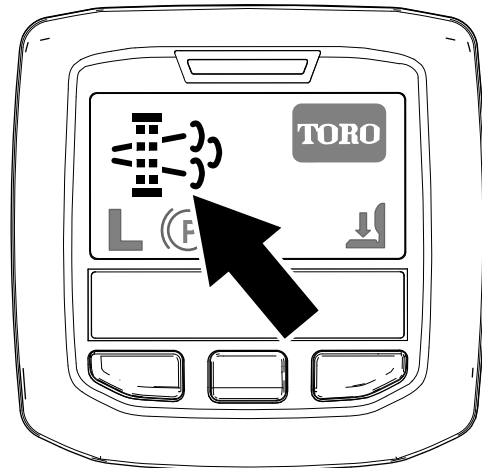

Figure 41
- The parked-regeneration requested icon displays in the InfoCenter (Figure 41).